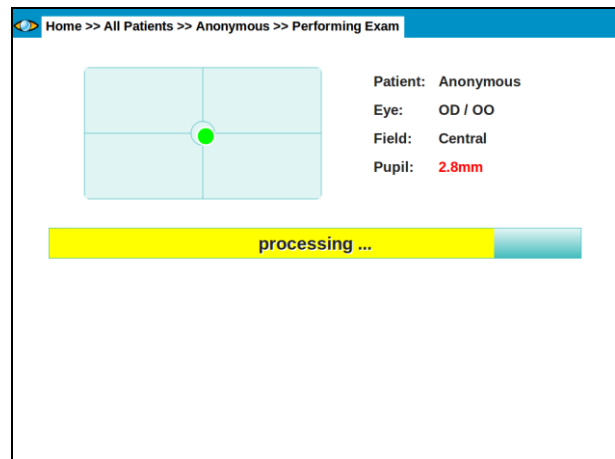

Figure 10 - Image processing and storage in progress
- Store the image in the local hard drive (see Figure 10);